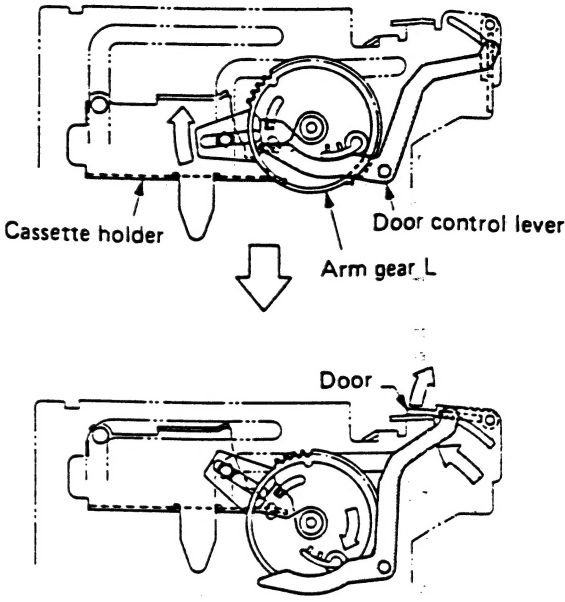

Fig. 3-1-8
3. While the cassette holder is moving upward, the door control lever rotatively moves along the cam surface of the arm gear and the door opens. (Fig. 3-1-8)